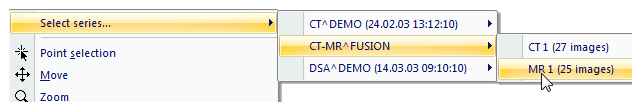

Figure 84 – Series selection by context menu
2. Click with the right mouse button to display its context menu (see Figure 84).